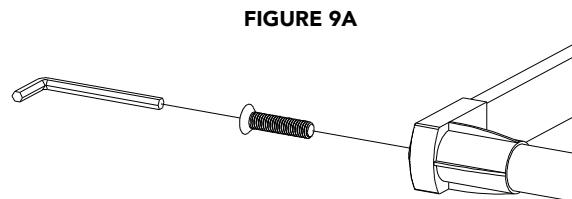

FIGURE 9A
Pull down the left and right arms to attach the hanging rod assembly to the pull-down unit. Using the (2) provided M8 hex bolts and allen wrench, attach the plastic endcap to the end of each arm (See Fig. 9A).